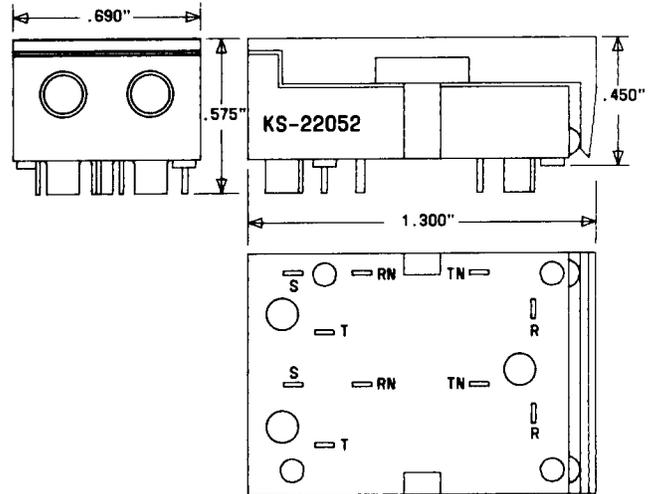

Fig. 12—KS-22052, L100, Dual-Jack
- (c) **KS-22052, L100:** The KS-22052, L100, dual-jack (Fig. 12) contains two jacks each with tip, ring, and sleeve springs plus break-contacts on the tip and ring springs.